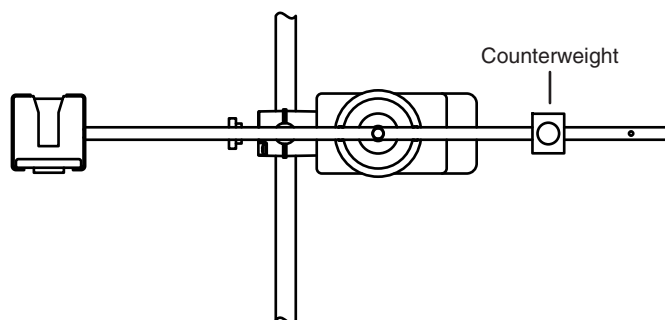

Figure 2.2: Pendulum balanced horizontally
2. Install one of the sliding masses from the Mini Rotational Accessory as a counterweight. Slide it onto the pendulum rod above the RMS attachment point. Adjust the position of the counterweight so the pendulum is perfectly balanced *without the ball*. If you release the pendulum in the horizontal position, it should not move. (See Figure 2.2.)